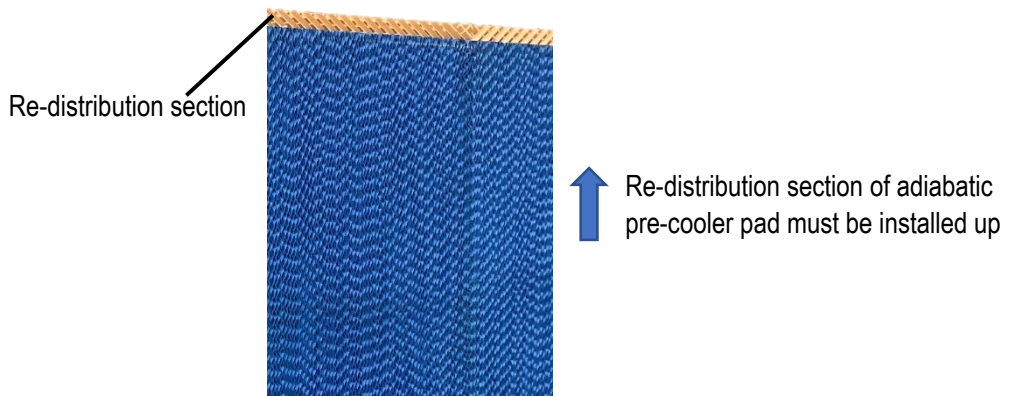

Figure 7. Re-distribution section of adiabatic pre-cooler pad
- a. Always re-install the adiabatic pre-cooler pads with the blue protective coating on the outside face. Always ensure that the re-distribution section of the pad is at the top of the unit per **Figure 7**.